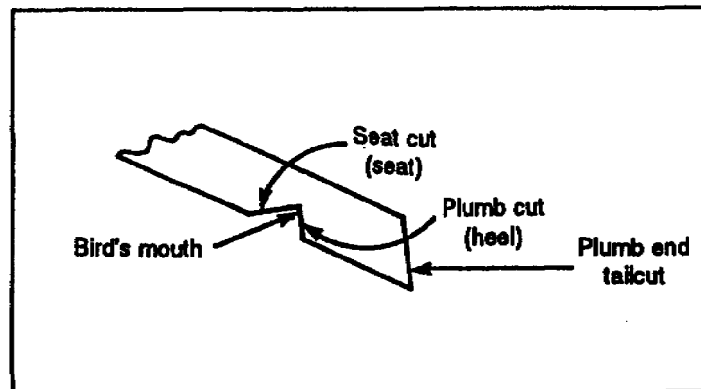

Figure 3-26. Bird's mouth
b. Bird's Mouth. A bird's mouth is a cutout near the bottom of a rafter, that fits over the top plate. The cut that fits the top of the plate is called the *seat*; the cut for the side of the plate is called the *heel* (see Figure 3-26).